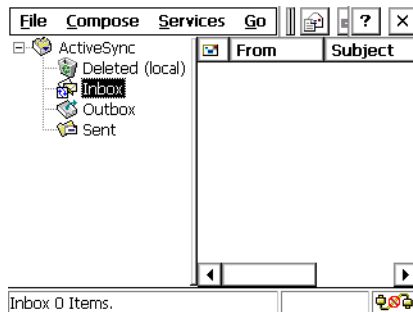

Figure 4-6. Inbox Window
1. Tap **Start ▶ Programs ▶ Inbox**. The **Inbox** window opens (Figure 4-6).